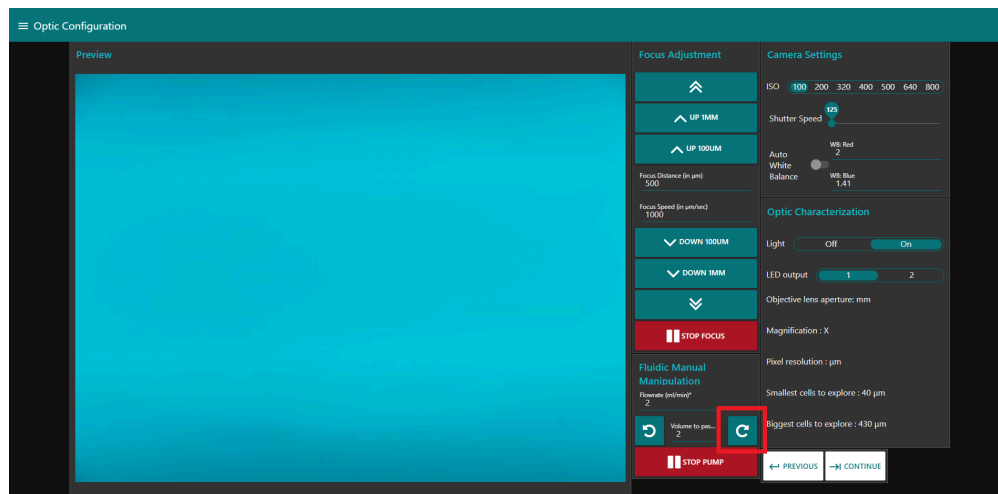

Figure 5: The red square highlights the location of the clockwise arrow that will rotate your Peristaltic Pump in the same direction.
c) Under Fluidic Manual Manipulation (fig.5), **click clockwise arrow** to check that the Peristaltic Pump is working. You should see the pump rotating in an clockwise direction.